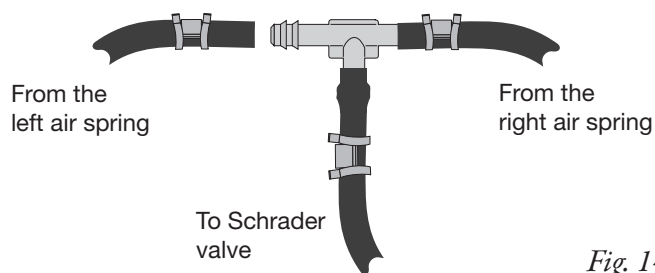

Fig. 14
4. Use this procedure (Fig. 14) for all air line connections:
- a. Slide the air line clamp (E) onto the air line.